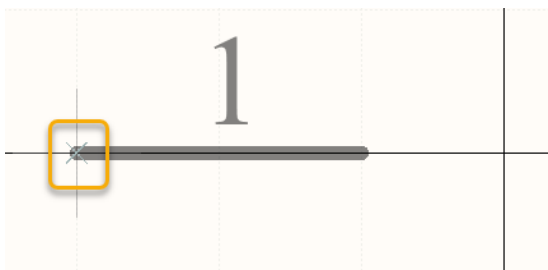

Figure 14. Pin Electrical Hotspot
16. Notice that one end of the pin has a small “X” as shown in Figure 14. This X crosshair defines its electrical connection or hotspot.